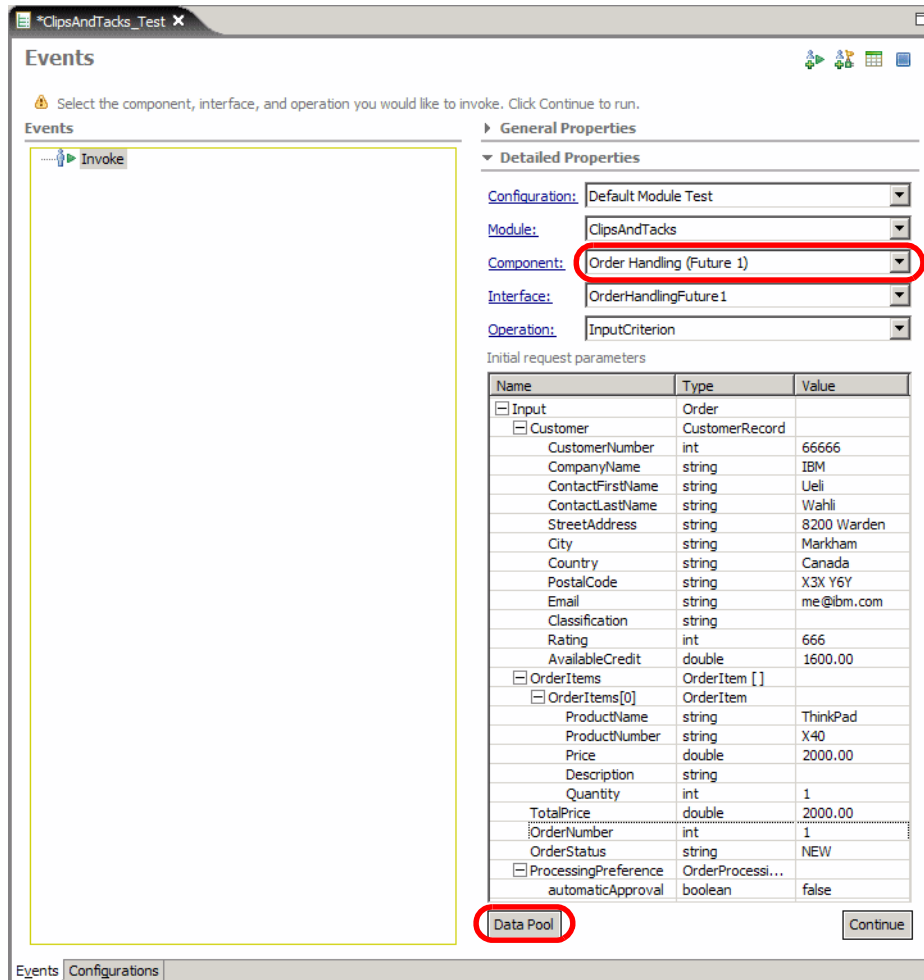

Figure 9-26 Testing: Input data
- ▶ Select the ClipsAndTacks project and *Test* → *Test Module*. The ClipsAndTacks_Test panel opens (Figure 9-26).